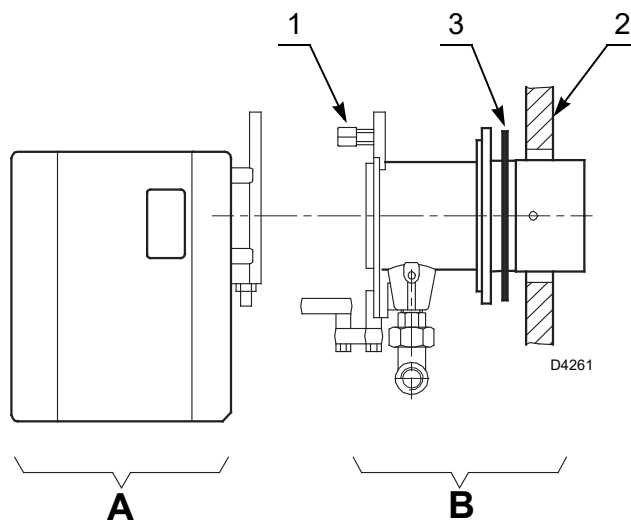

Fig. 12
- Separate the combustion head assembly from the burner body by removing nut 1) and removing the group A)(Fig. 12).
- Fix the group B)(Fig. 12) to the boiler plate 2), inserting the supplied insulating gasket 3).